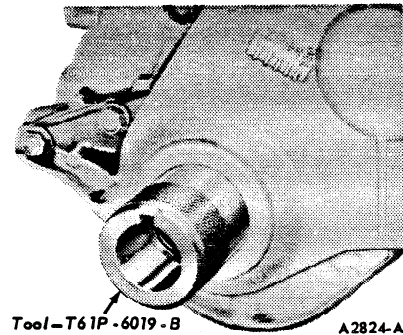

FIG. 38 Aligning Cylinder Front Cover
3. Insert the small diameter end of the cover alignment tool in the bore of the cover. Position the cover and pilot assembly over the end of the crankshaft and against the block (Figure 38), being careful to align the cover flush with the cylinder block oil pan gasket surface. Install the alternator adjusting arm and cylinder front cover bolts. Torque all the bolts to specifications.